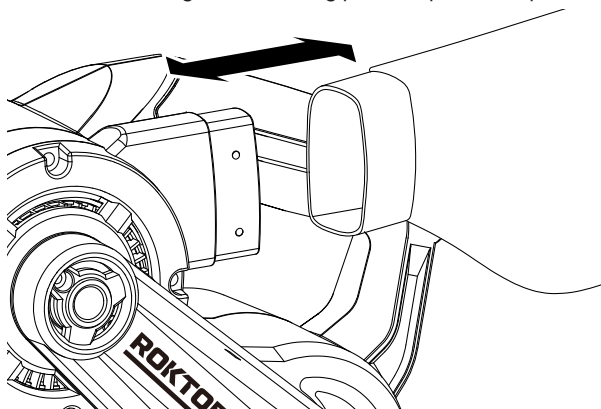

Figure 3
3. USING THE DUST BAG (SEE FIG. 3)